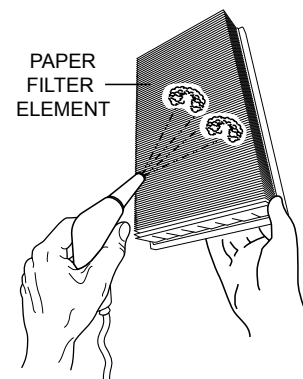

Figure 25. Cleaning Inner Paper Filter
3. Blow dry with compressed air 30 psi (207 kPa, 2.1 kgf/cm²) maximum against the side of the paper filter element (Figure 25) along the pleats. Then blow dry against outside along the pleats, then against inside again.